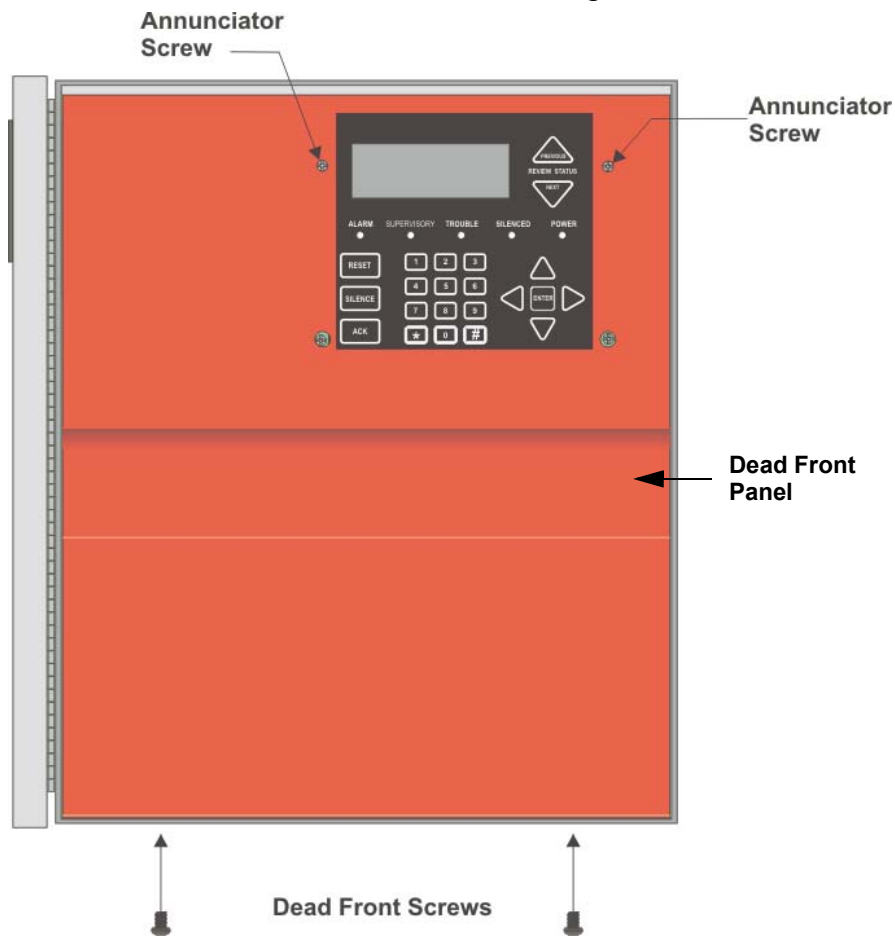

Figure 4-1 Dead Front Installation and Removal
1. Remove the top two annunciator screws, do not discard them they will be reused. See Figure 4-1 for annunciator screw location.
2. Set the dead front into the cabinet as shown in Figure 4-1.
3. Reinsert the two annunciator screws as shown in Figure 4-1.
4. Insert the two screws into the bottom of the cabinet to secure the dead front into place. See Figure 4-1.
1. Remove the two annunciator screws, do not discard them. See Figure 4-1.
2. Remove the two screws from the bottom of the cabinet. See Figure 4-1.
4. Reinsert the two annunciator screws. See Figure 4-1.